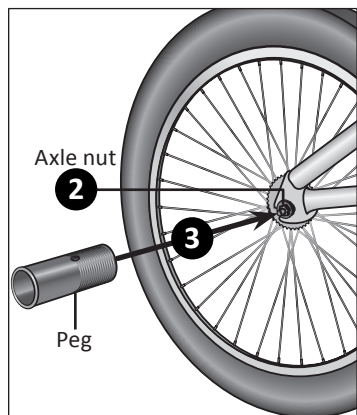

Figure 3.32
- 3 Close the quick-release lever and lock the seat in place. If there is not enough pressure to hold the seat in place open the quick-release lever. With one hand on the quick-release lever and one hand on the adjustment nut, start to hand tighten the adjustment nut until you start to feel some resistance against the post clamp. **Do not** attempt to tighten by turning the quick-release lever. The quick-release lever is for closing, the adjustment nut is for adjusting the pressure. **Figure 3.32**
- ❶ **Do not** loosen or remove axle nuts.
- ❷ Check to make sure axle nuts are properly tightened before installing pegs.
- ❸ Thread the pegs on the axle over the axle nut. **Figure 3.32**